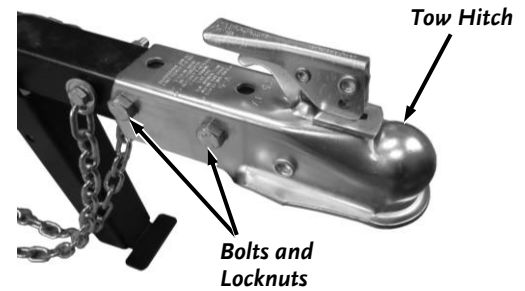

Figure 10
1. Remove the Tow Hitch Bolts and Locknuts (Figure 10). Remove the Tow Hitch.
15. Reinstall the Tow Hitch and secure with the Bolts and Locknuts, but leave the front bolt loose for the following steps (**Figure 10**).